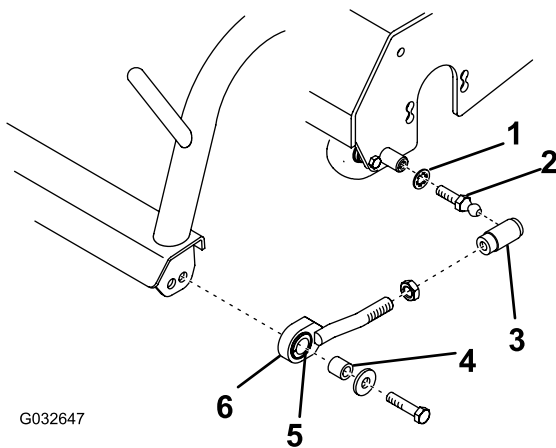
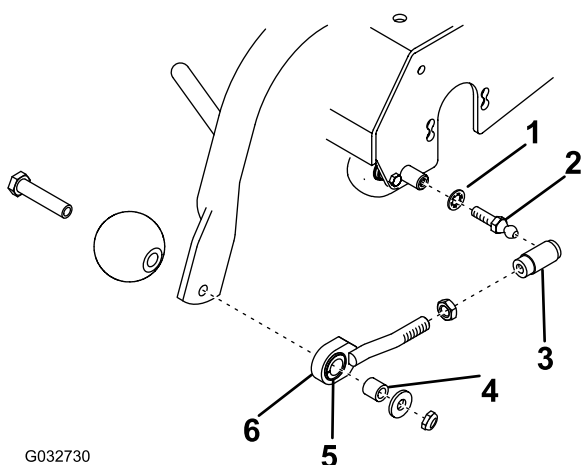

Figure 5
Figure 6
- Install a ball stud and lock washer to each end of the spiker (Figure 5 or Figure 6).
- Assemble a jam nut and ball joint receiver onto each pull link assembly as shown in Figure 5 or Figure 6.
- C. Mount a pull-link assembly to each end of the carrier frame with a spacer, washer, and screw (Figure 5 or Figure 6).
- E. Slide the sleeve back on each ball joint receiver and hook them onto the ball studs (Figure 5 or Figure 6).